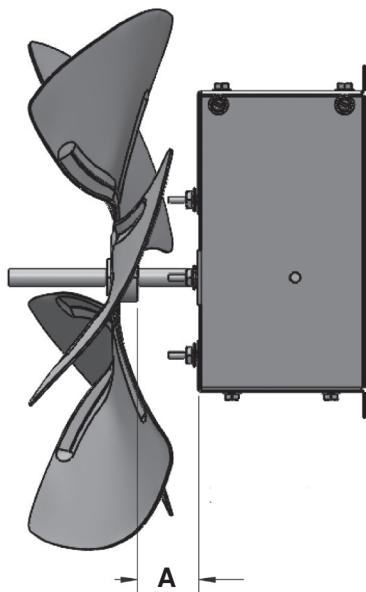

Figure 6. Fan and Motor Spacing (Refer to Table 5)
7. Ensure that fan is in proper position on shaft (see **Figure 6**) and setscrew is tightened in accordance with torque listed in **Table 5**.
*See **Figure 6**.